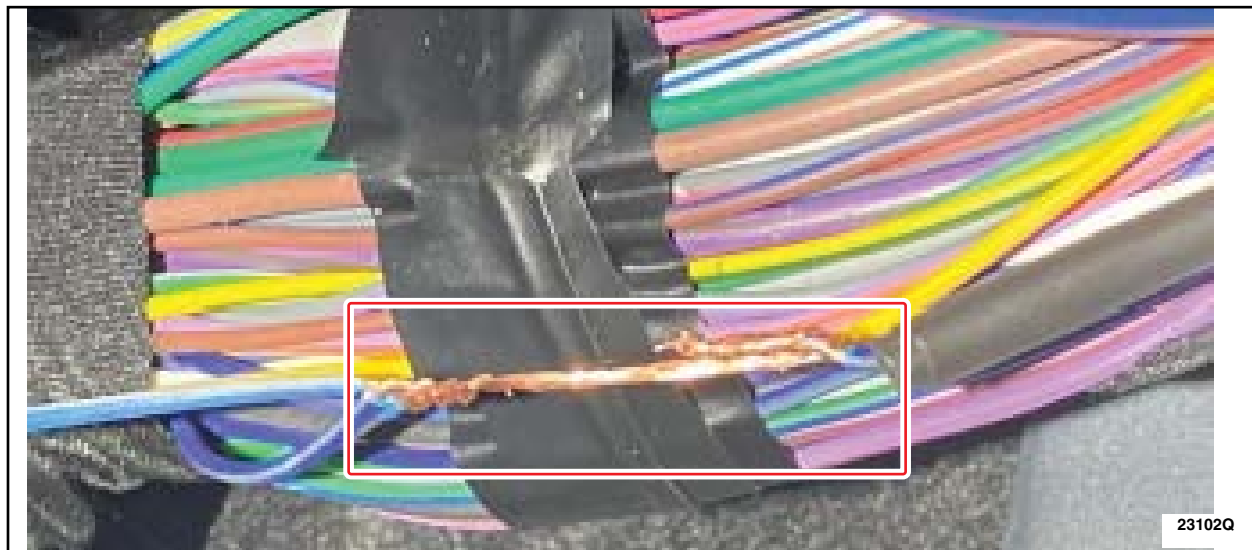

FIGURE 16
19. Solder the circuits together. See Figure 16.